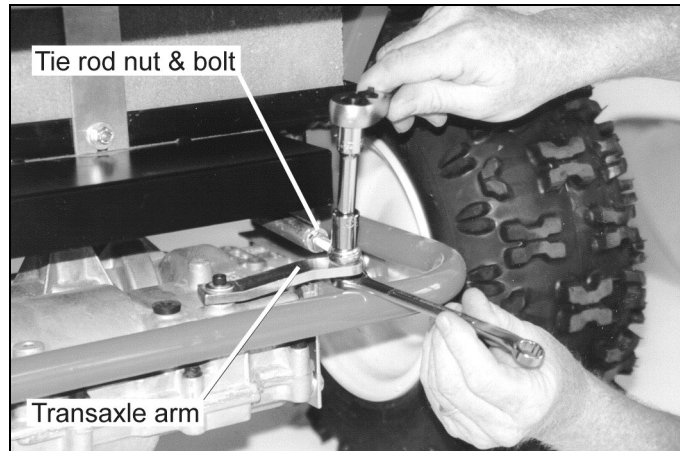

Figure 23
4. Replace the caliper housing and its parts: two actuator pins, the backing plate, and the second brake pad (*Figure 23*). Make sure the brake arm assembly is in the upright position and the recessed cutout on the caliper is facing up with the plate to the rear. Reinstall the two caliper bolts and be careful not to over tighten them.